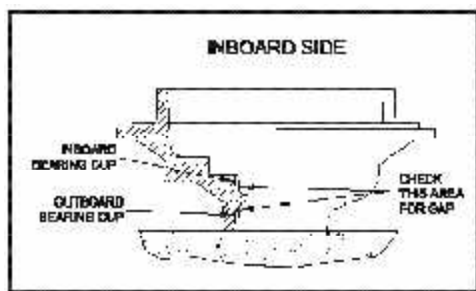

Figure 6.3.4—Installation of Inboard and Outboard Bearing Cups
3. With a 0.001" or 0.040 mm feeler gage, make sure that there is no gap between the housing and the bearing cups to insure proper cup seating; reference Figure 6.3.4, next page.